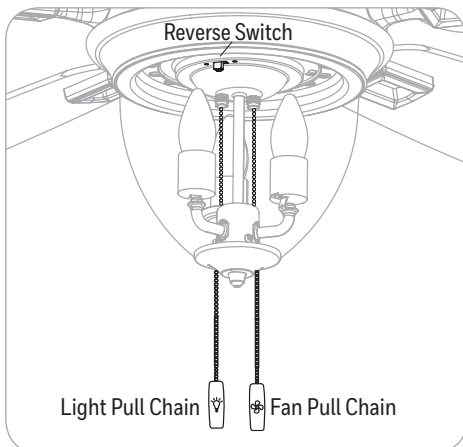

Figure 6.1
1. The fan pull chain has four positions to control fan speed. One pull is high, two is medium, three is low and four turns the fan off. The light pull chain has two positions to control the light, on and off (Figure 6.1).